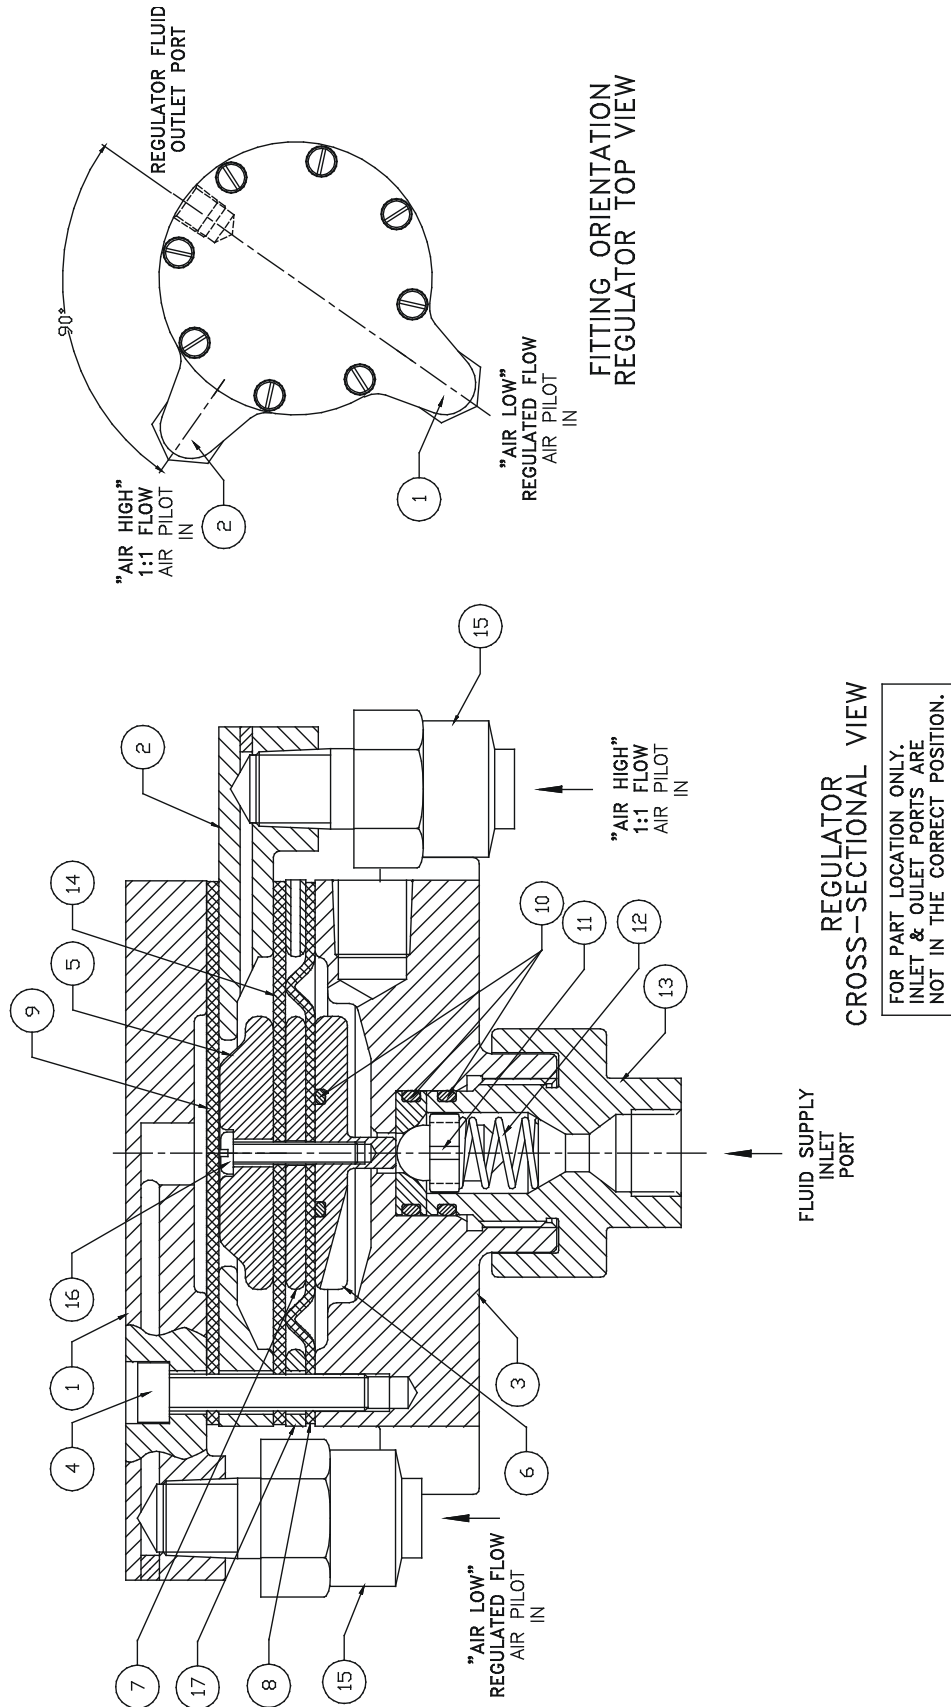

Figure 1: Regulator Cross-Sectional View
DISASSEMBLY PROCEDURES (Refer to Figure 1)
ASSEMBLY PROCEDURES (Refer to Figure 1)
11. Place Item 2 (spacer ring) on the top of the diaphragm assembly with largest opening facing "DOWN". Rotate the spacer ring, without rotating the diaphragm assembly, so that the inlet port of the spacer ring is 90° to the outlet port on the lower housing and all the clearance holes are aligned (see Figure 1).
TEST PROCEDURES (Refer to Figure 1)
(Figures 1 and 3)
DR-1 PLASTIC FLUID REGULATOR - PARTS LIST (Cont.) (Figures 1 and 3)